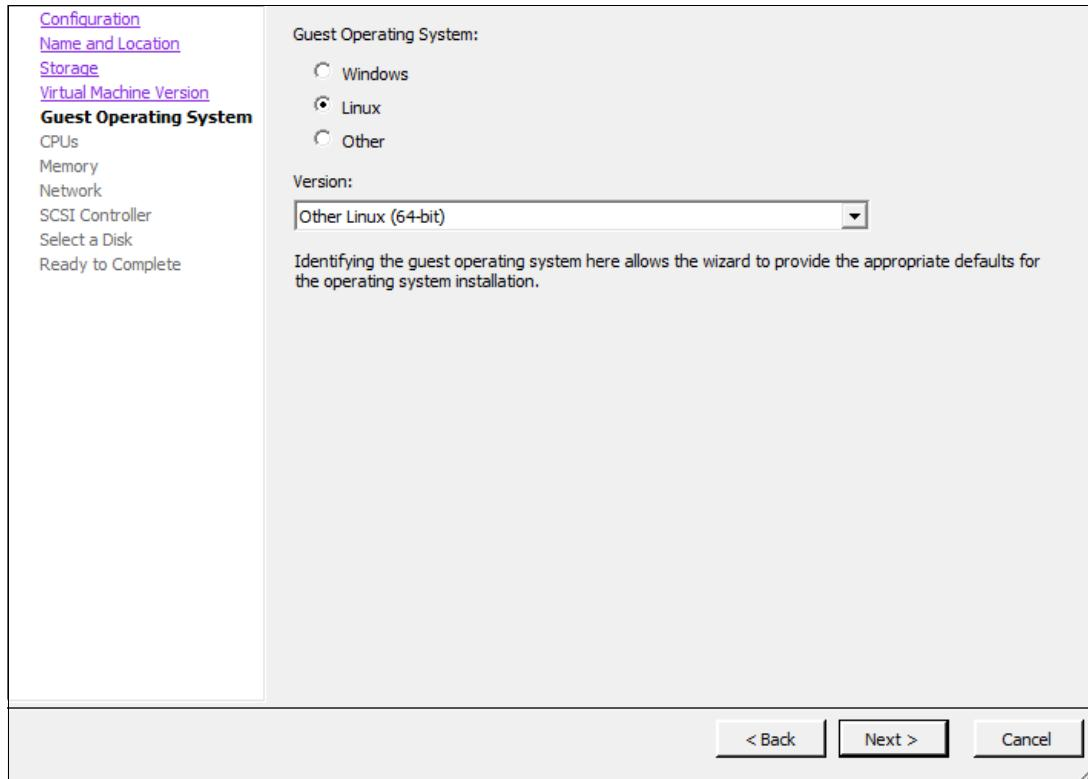

Figure 3-8 Guest Operating System version
6. For the Guest Operating System (Figure 3-8), select **Linux**. Then select **Other Linux (64-Bit)** or **Red Hat Linux 6.3 (64-Bit)** from the Version list. Click **Next**.